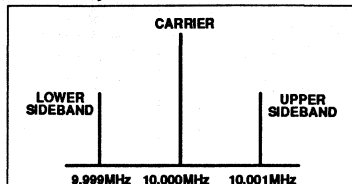
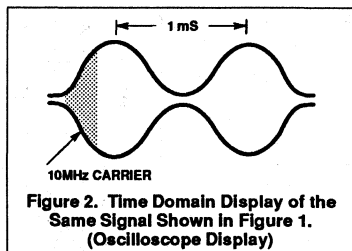

Figure 1. Frequency Domain Display of a 10MHz Carrier AM Modulated by a 1kHz Tone (Spectrum Analyzer Display)
Figure 2. Time Domain Display of the Same Signal Shown in Figure 1. (Oscilloscope Display)
Figure 1 shows the frequency spectrum of a 10MHz full-carrier double-sideband AM signal using a 1kHz modulating tone. This well-known type of signal is used by standard AM broadcast radio stations. Full-carrier AM's advantage is that envelope detection can be used in the receiver. Envelope detection is a simple and economical technique because it simplifies receiver circuitry. Figure 2 shows the time domain "envelope" of the same AM signal.
The 1kHz tone example of Figures 1 and 2 serves as a simple illustration of an AM signal. Typically, the sidebands contain complex waveforms for voice or data communications. In the full-carrier double sideband mode (AM), all the modulation information is contained in both sidebands, while the carrier "rides along" without contributing to the transfer of intelligence. Only one sideband without the carrier is needed to effectively transmit the modulation information. This mode is called "single-sideband suppressed carrier". Because of its